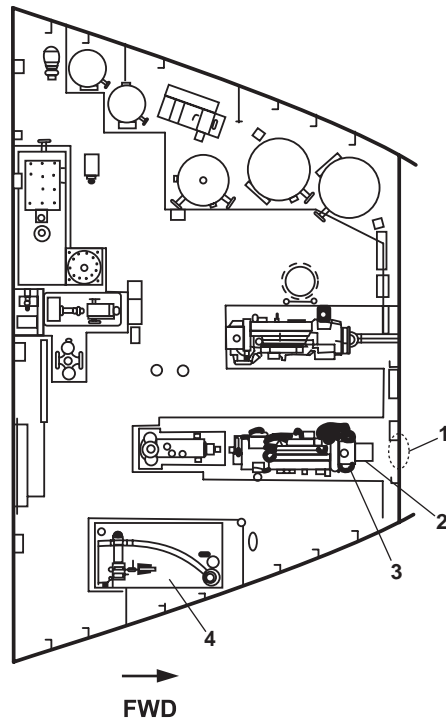

Figure 4. Deck Machinery and Hydraulic System Components, Auxiliary Machinery Space 1 (AMS 1)
1. Crossover Control Valves (figure 4, item 1). Valves, located forward of the pump drive engine, are used to permit the towing machine hydraulic system to supply the central hydraulic system and vice versa.
2. Towing Machine Hydraulic Pump (figure 4, item 2). The hydraulic pump is mounted on the forward end of the pump drive engine. The pump provides primary power for the towing machines. The pump may also be used to power the central hydraulic system (capstan, deck crane, and anchor windlass) in the event of central hydraulic system failure.
3. Pump Drive Engine (figure 4, item 3). The engine is the prime mover for the towing machine hydraulic pump and for the diesel engine-driven firefighting pump. TM 55-1925-211-24 and TM 55-1925-211-24P provide maintenance and other information pertinent to this engine.
4. Towing Machine Hydraulic Reservoir (figure 4, item 4). The reservoir contains the hydraulic fluid for the towing machine hydraulic system.